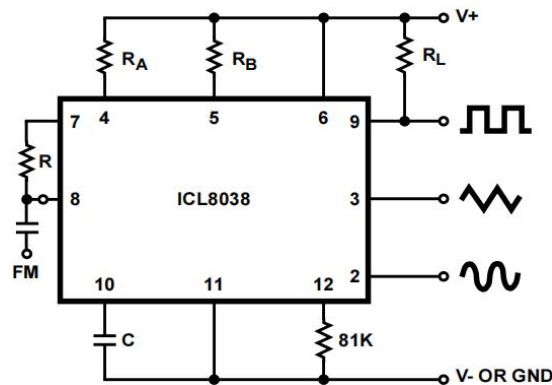

FIGURE 5A. CONNECTIONS FOR FREQUENCY MODULATION
2.  $V_{\text{SUPPLY}} = 20\text{V}$ ; RA and RB =  $10\text{k}\Omega$ ,  $f \cong 10\text{kHz}$  nominal; can be extended 1000 to 1. See Figures 5A and 5B.
The frequency of the waveform generator is a direct function of the DC voltage at Terminal 8 (measured from V+). By altering this voltage, frequency modulation is performed. For small deviations (e.g.  $\pm 10\%$ ) the modulating signal can be applied directly to pin 8, merely providing DC decoupling with a capacitor as shown in Figure 5A. An external resistor between pins 7 and 8 is not necessary, but it can be used to increase input impedance from about 8k $\Omega$  (pins 7 and 8 connected together), to about (R + 8k $\Omega$ ).